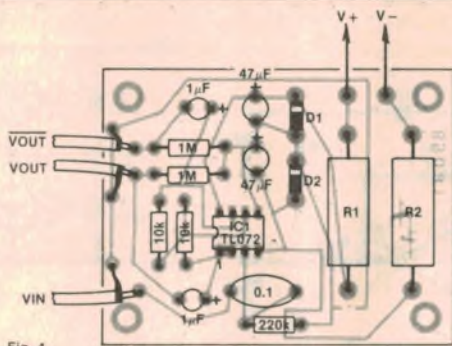
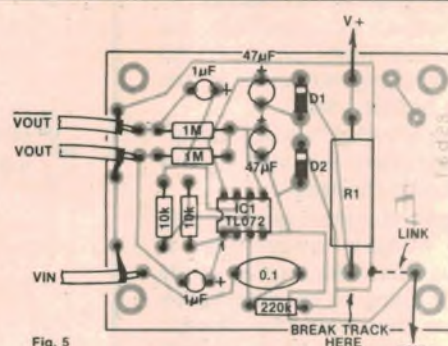

Fig. 4
Fig. 5
Fig.4 shows the PCB layout to be used with amplifiers having dual supplies while Fig.5 shows the layout for amplifiers with a single supply rail.
resistor and connection of the negative supply point to the printed circuit board earth connection. It will also be necessary to modify the printed circuit layout slightly, as shown in Fig.5.
As noted above, the Bridge Adaptor is laid out on a compact printed circuit (PC) board measuring 69 × 54mm and coded 85ba1. This is easy to assemble, a job that can be done inside half an hour. Note that the 5W zener feed resistors should be raised off the board by a couple of millimetres as they can get quite hot and may tend to char the PC board otherwise. Fig.4 (or Fig.5) shows how the PC board should be assembled.
Fig. 5: basic circuit of the 6kW power stage of Fig. 4. Note single supply rail (+110V at 60A). Positive and negative output voltages are made possible by transformer coupling to the output. P, Q, R and S are separate drive points.
Fig. 4: this 6kW power output stage operates happily from a single power supply. Four NPN transistors are used, as shown in Fig. 5. (Photo courtesy P. Wolfs, Capricornia Institute, Rockhampton.)